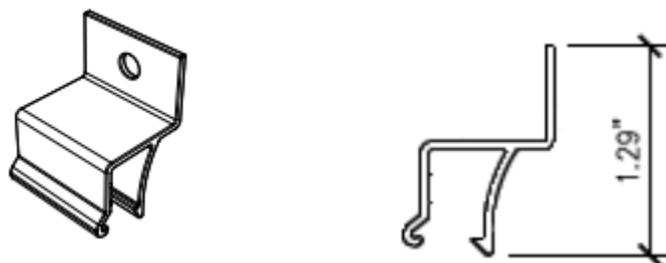
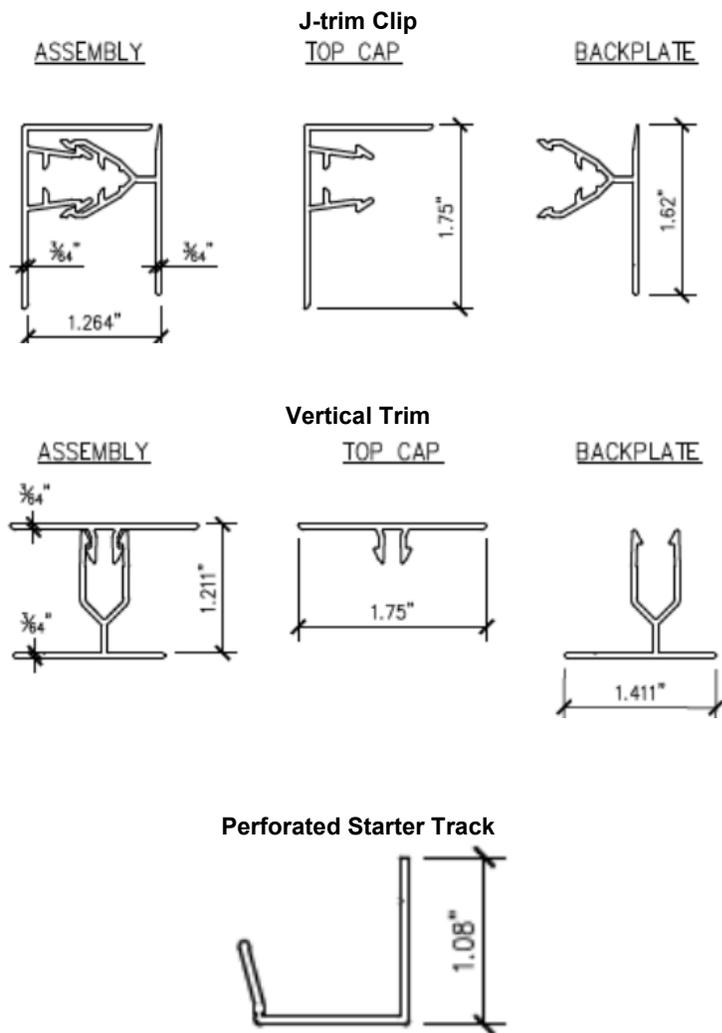

FIGURE 2 – FASTENING CLIPS
FIGURE 3 – TRIM AND ACCESSORIES
3.2 Fastening Clips: The fastening clips are illustrated in Figure 2. The clips are 1 in. wide aluminum extrusions. All additional trims are illustrated in Figure 3.